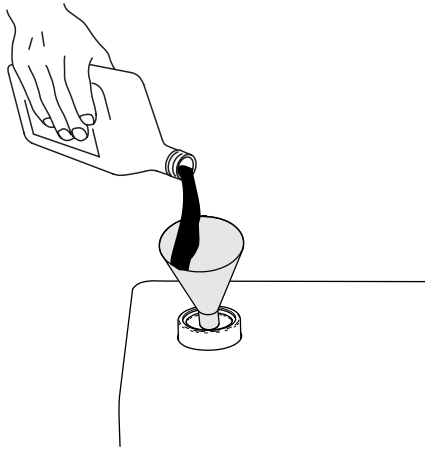

Figure 115
7. If the fluid level is below the lower mark on the dipstick, add the specified hydraulic fluid into the tank (Figure 115). Repeat steps 4 through 6 until the fluid level appears between the 2 marks on the dipstick.